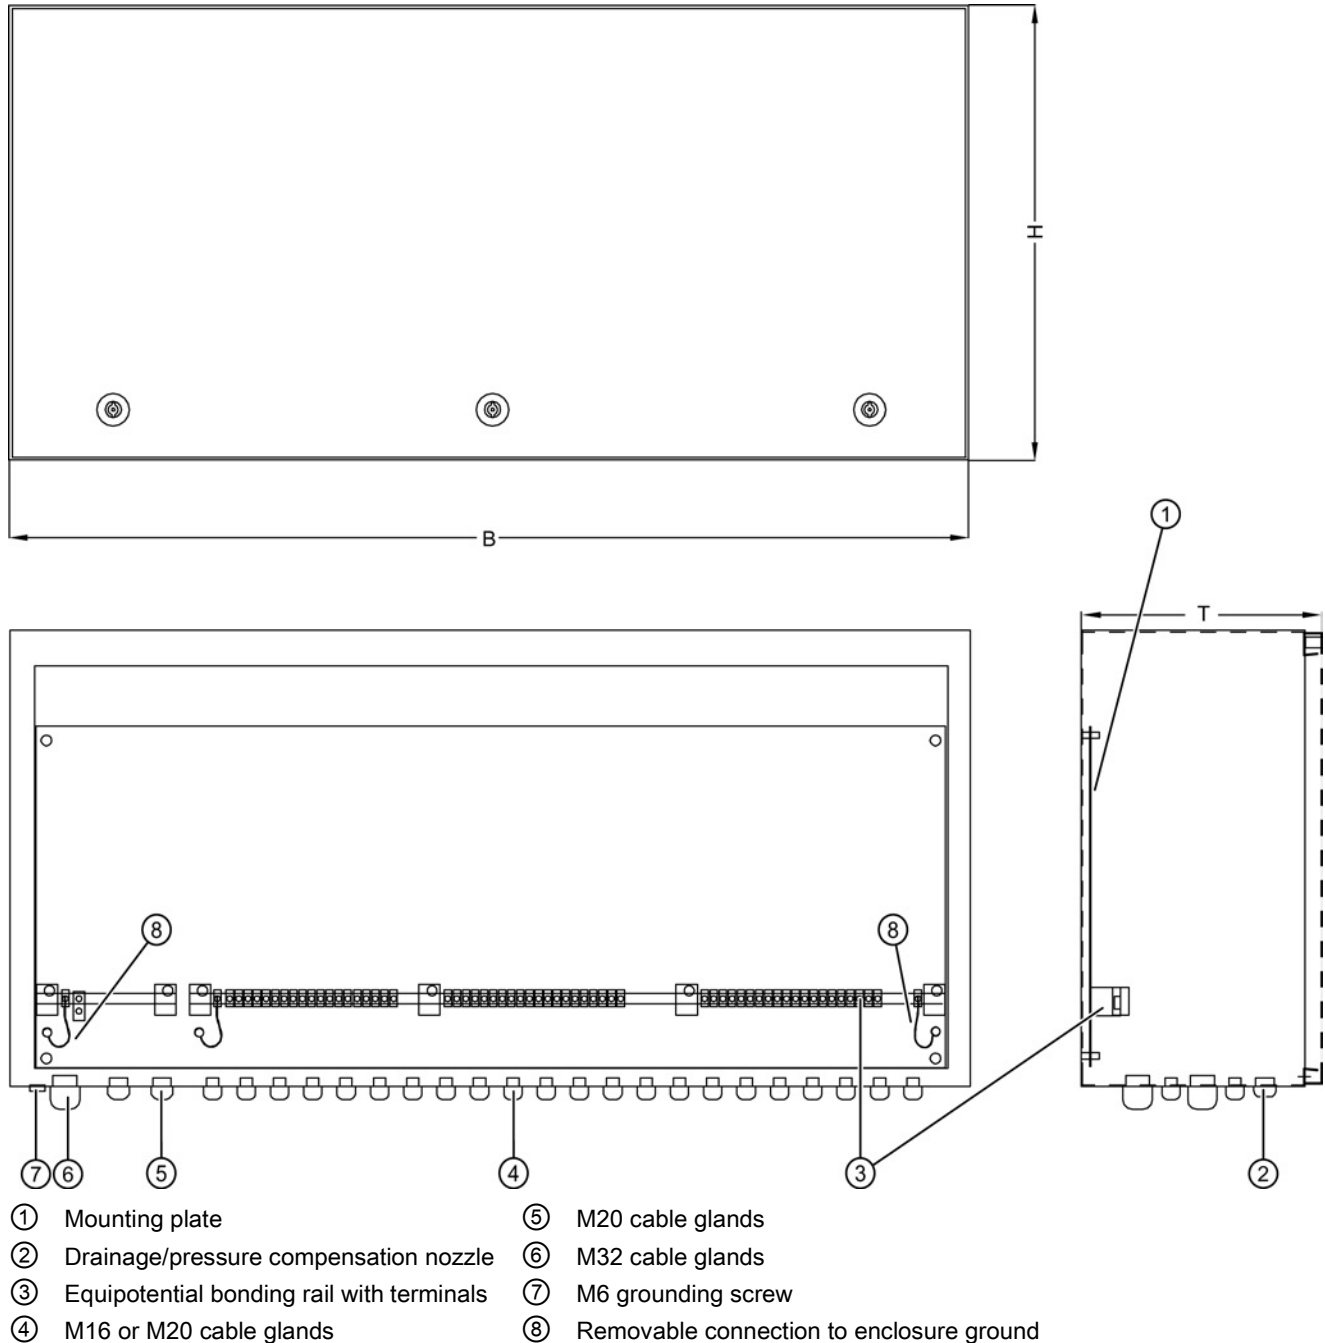

Figure 3-1 Standard enclosure 6DL2804-0xD...Gxx
6. If you remove the detachable connections between equipotential bonding rail and mounting plate, you can install the bonding rail ungrounded if required (see Figure 3-1 Standard enclosure 6DL2804-0xD...Gxx (Page 12)).